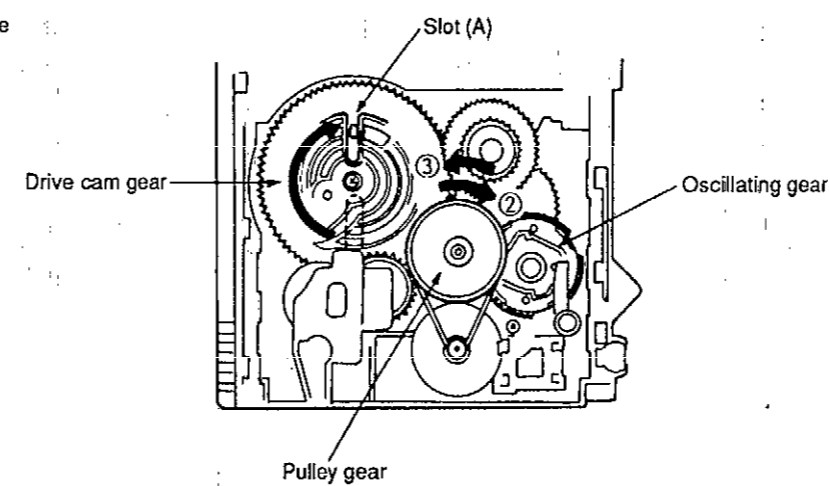

Fig. 7
11. Rotate the pulley gear in the direction of arrow ② and then rotate the pulley gear to full position in the direction of arrow ③ when the oscillating gear stops.
12. Rotate the drive cam gear so that the slot (A) of the drive cam gear is put into a given position as shown in fig. 7.